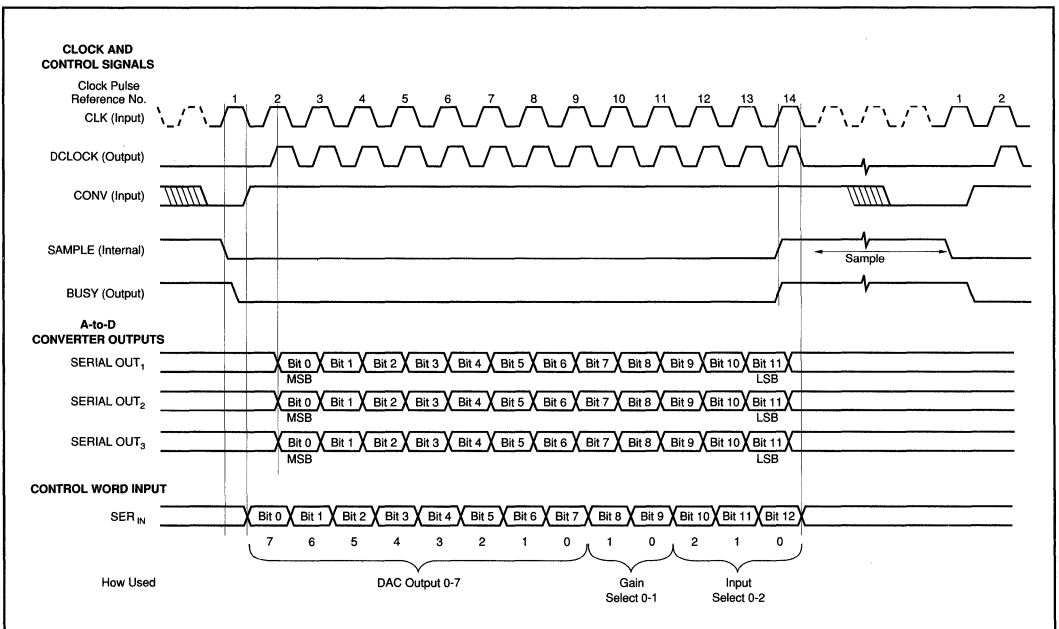

FIGURE 2. Timing Diagram.
The ADS7833 contains seven sample holds. Five of them (SH₁ through SH₅) sample simultaneously and have their sample/hold timing internally synchronized. (The timing is shown in Figure 2).
An 8-bit DAC provides 256 output voltage levels from 0V to 2.5V (see Table V for input/output relationships). The DAC is controlled by the DAC Input portion of the input setup word. The DAC Input portion of the word is strobed into the DAC at the end of the conversion cycle (14th CLK pulse in Figure 2).
Sampling and conversion is controlled by the CONV input (see Figure 2). The ADS7833 is designed to operate from an external clock supplied at the CLK input. This allows the conversion to be done synchronously with system timing so that transient noise effects can be minimized. The CLK signal may run continuously or may be supplied only during convert sequences. The BUSY and DCLOCK signals are internally generated and are supplied to make easier interfaces with microprocessors (see Figures 2, 4, and 5).
Configuration information for these parameters is contained in the SER_{IN} word (See Figure 2). As one conversion is taking place, the configuration for the next conversion is being loaded into the buffered Input Setup Register via the SER_{IN} word. Table I shows information regarding these parameters.
NOTE: (1) See Figure 2. "Clock Pulse Reference No."
The PGA gain is determined by the Gain Select portion (bits 8 and 9) in the SER_{IN} word (see Figure 2). There is one gain input that sets the same gain for all three PGAs. The gain values and allowable full scale inputs are shown in Table II.
The Input Select portion of the SER_{IN} word (bits 10, 11 and 12) (see Figure 2) are decoded and determine the open/closed condition of the multiplexer switches. This in turn determines which input signals are connected to the sample holds and which sample holds are connected to the PGAs/ADCs.